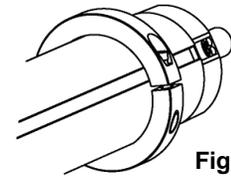

Fig. 2
**Fig. 2 – Core Stop (Ring):** Loosen – do not remove – the socket head bolt in the core stop ring until the ring can slide over the shaft. **Make sure the seam in the ring is not aligned directly over a rubber element.** Position the ring along the shaft as required for your application, then tighten the bolt to 55-60 in·lbs.